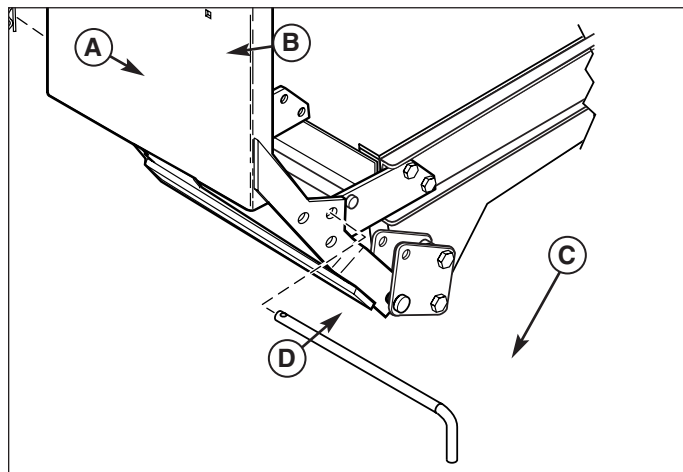

Figure 17. Install Side Brackets
3. Remove the long hitch pin (C, Figure 17, non 3-Point Hitch Shown).